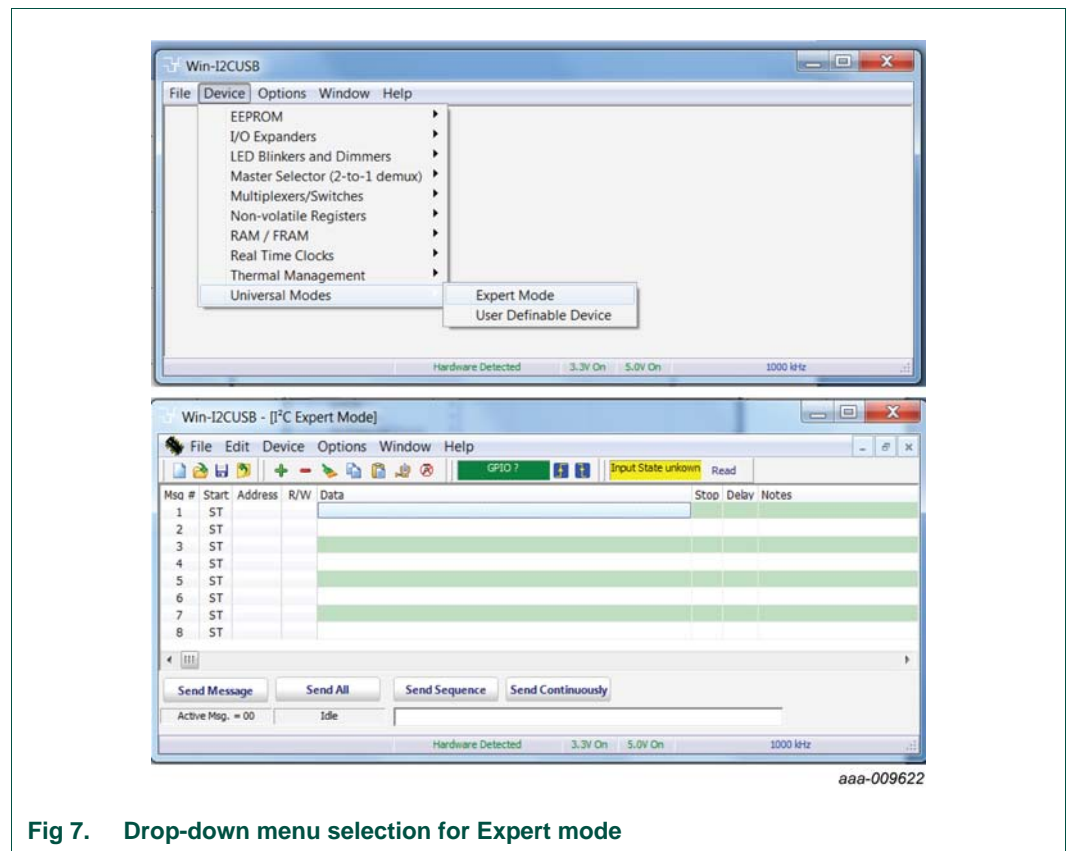

Fig 7. Drop-down menu selection for Expert mode
The PCA9955A/B is controlled by Win-I2CUSB GUI in Expert mode, as shown in Figure 7.
software. As shown in Figure 7, when the demonstration board hardware is correctly connected to the USB port and the computer recognizes it, the message ‘Hardware Detected’ is displayed on the bottom of the window.
1. From the ‘Device’ drop-down menus select ‘Universal Modes’, and from the subsequent drop-down menu select ‘Expert Mode’ as shown in Figure 7.